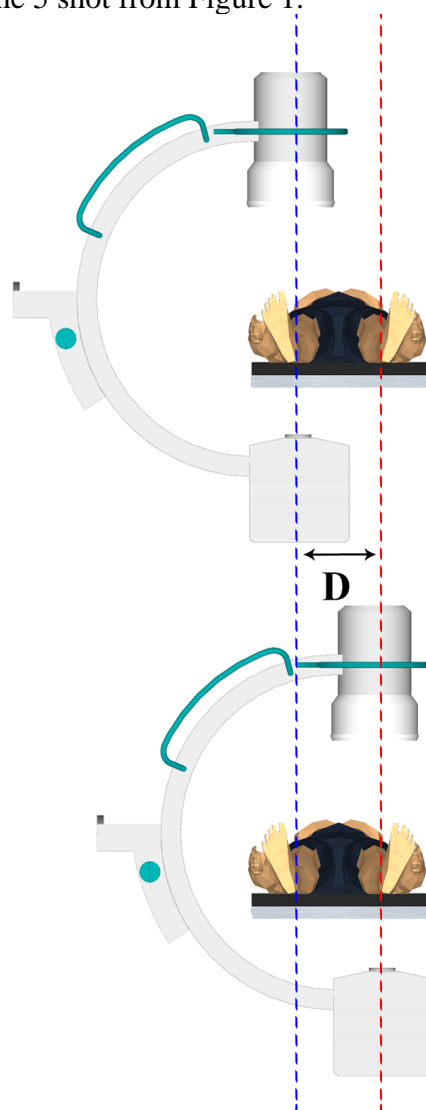

Figure 3. Physical distance based approach.
- B. Physical distance based approach. Please see Figure 3 for illustrations.